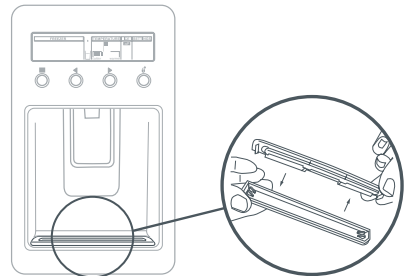

Fig.25 Drip Tray cleaning
- To clean, take the tray out of the dispenser panel and pull the two halves of the tray apart (see Fig.25).